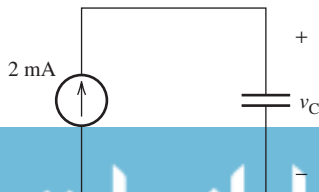

FIGURE P4.14 Circuit for Problem 4.14.
- 4.14 (A)* At $t = 0$, a 2-mA source is applied to an uncharged 1.2- μF capacitor as shown in Figure P4.14. Determine (a) the capacitor voltage, v_C , at $t = 20$ ms and (b) the energy, w_C , stored in the capacitor at $t = 20$ ms.